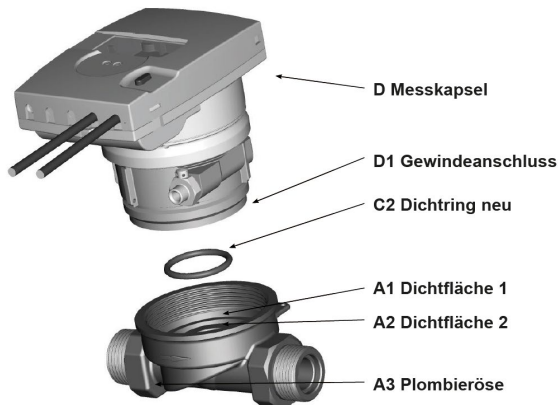

Fig. 5.3.2 Installation of F PolluCom® F/S C X measuring capsule
- Remove the protective cap from the threaded connection (D1) of the PolluCom® F/S C RI coaxial meter (D), insert the supplied new sealing ring (C2) onto the sealing surfaces (A1 and A2) of the EAS instead of the old seal.
- Grease the thread of the coaxial meter (D) and screw it into the EAS and tighten it to the fixed stop on the housing. Only use a hook wrench for this purpose! Do not use any additional sealants under any circumstances! Fig. 5.3.2